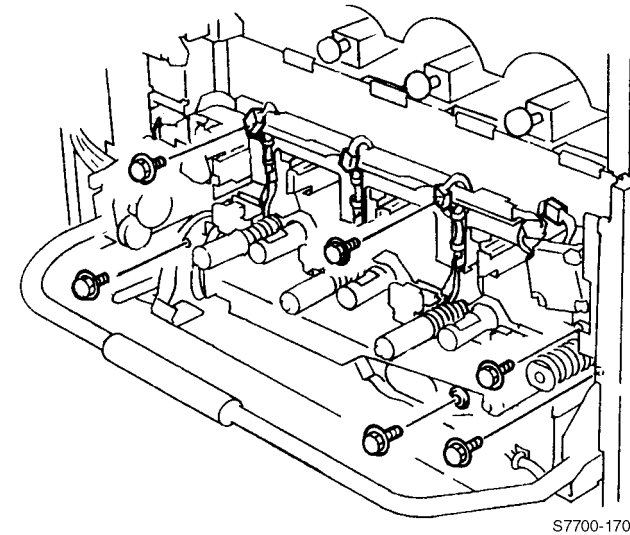

Figure 3 Removing Plate Assembly
12. Remove Plate Assembly (Figure 3).
- a. Remove Screws (6).